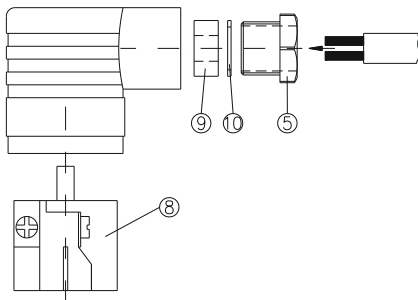

Fig. 8
- ⚡ Insert the supply cable through the screwed cable gland ⑤, the pressure ring ⑩ and the rubber insert ⑨ into the cable socket ② (⇒ Fig. 8).